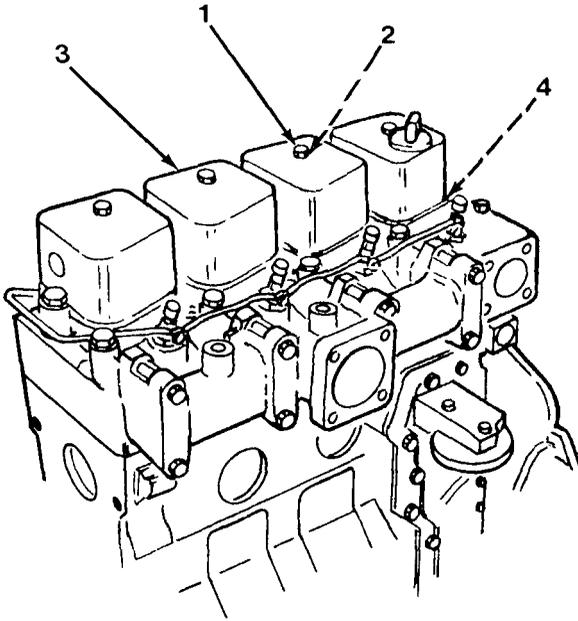

Figure 6-1
Install four gaskets (4), valve covers (3), O-rings (2) and capscrews (1, Figure 6-1). Torque four capscrews (1) to 18 lb-ft (24 N•m).